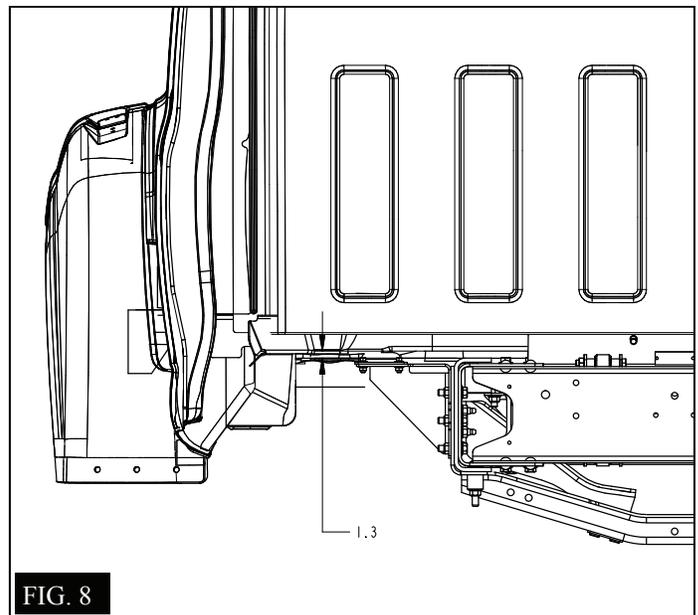

FIG. 8
35. For the cab to set level on the frame, the nominal dimension is 1.3" (see Fig. 8).